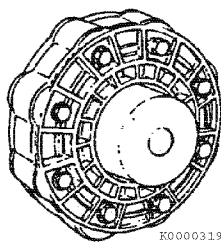
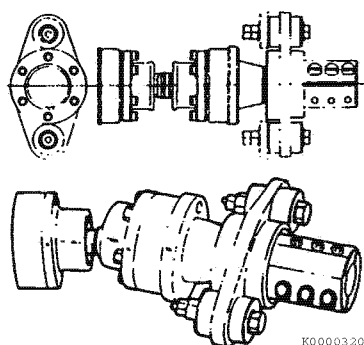

Figure 5-39
Figure 5-40
- 3 – Flexible marine gear shaft coupling (refer to **Figure 5-39**)
The following illustrations represent examples of flexible couplings (**Figure 5-39**), (**Figure 5-40**).